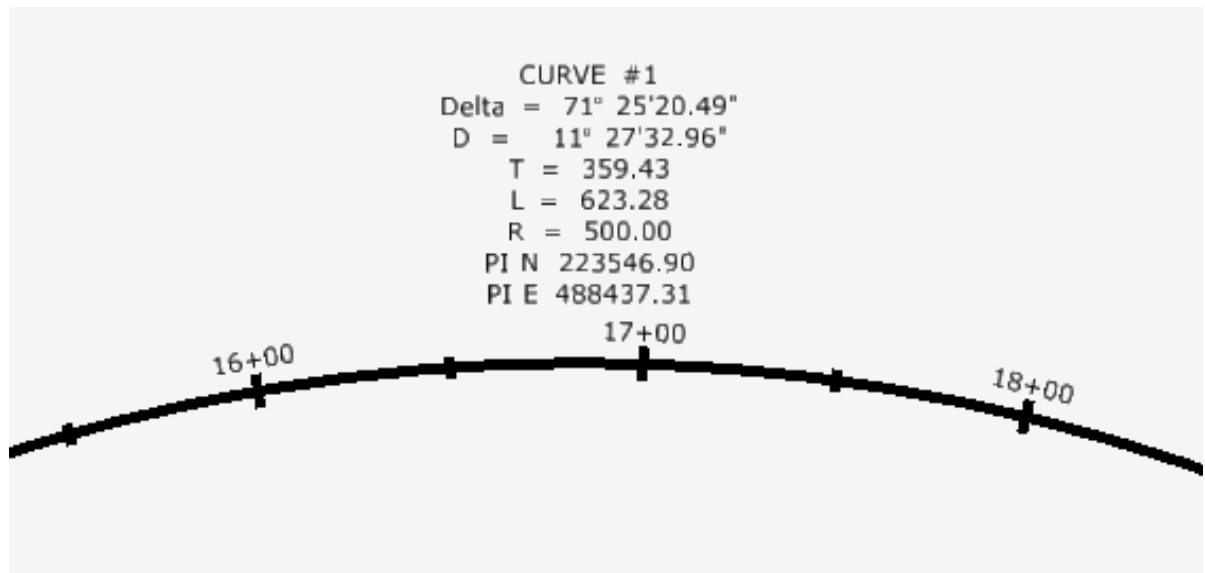

Figure 4-11 MicroStation Screen Shot of InRoads Generated Curve Data
- D. Click **Apply** and **Close**. Figure 4-11 shows the annotated curve.